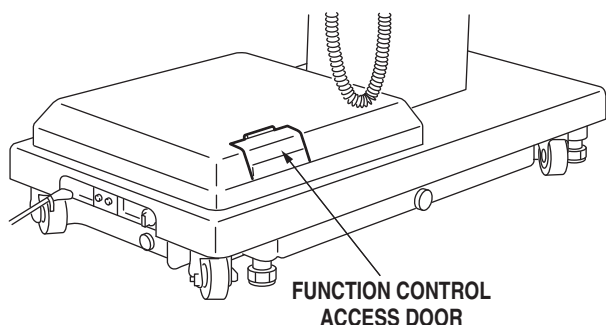

Figure 2-18. Emergency Controls Location
a. The emergency back-up control switches are located under the access door on the service access cover in the table base. See figure 2-18.